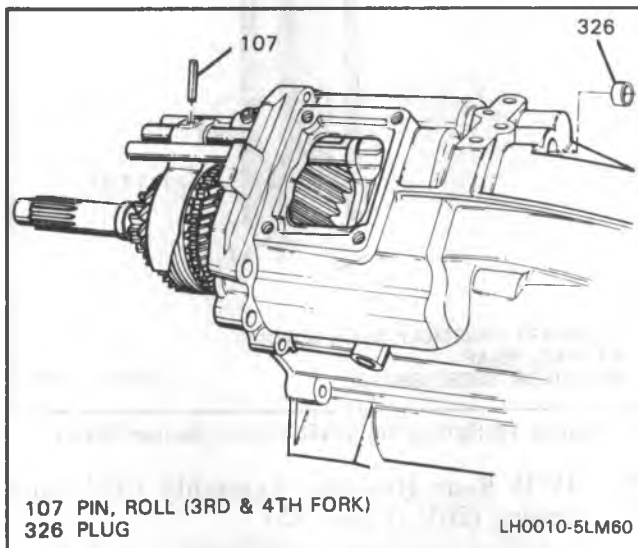

Figure 10 Removing 3-4 Rail Plug and Roll Pin
18. Shift shaft (116), shift shaft socket assembly (123) and finger (121).
19. 3rd and 4th shift fork roll pin (107) (Figure 10).